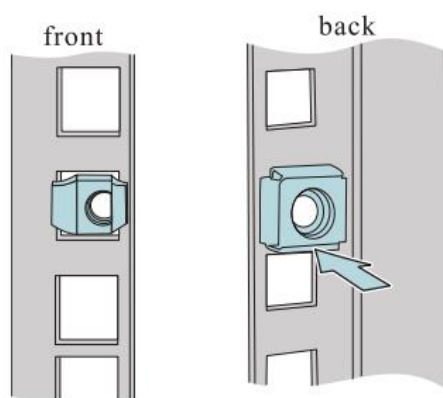

Figure 27: Installing the floating nuts
- ☐ Install the floating nuts in the marked positions. See Figure 27.